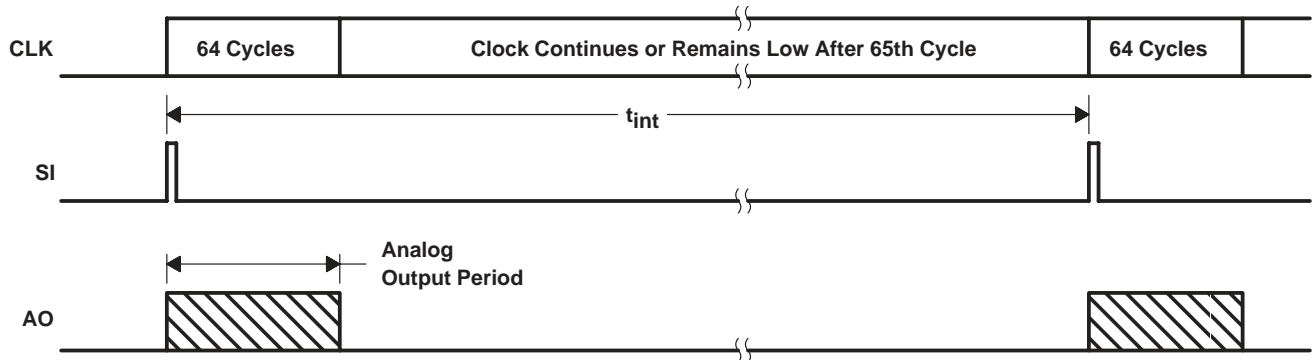

Figure 1. Timing Waveforms
Operation of the 64 × 1 array sensor consists of two time periods: an integration period during which charge is accumulated in the pixels and an output period during which signals are transferred to the output. The integration period is defined by the interval between serial-input (SI) pulses and includes the output period (see Figure 1). The required length of the integration period depends upon the amount of incident light and the desired output signal level.
The output period is initiated by the presence of the SI input pulse coincident with a rising edge of CLK (see Figures 1 and 2). The analog output voltage corresponds to the level of the first pixel after settling time (t_s) and remains constant for a minimum time, t_v . A voltage corresponding to each succeeding pixel is available at each rising edge of the clock. The output period ends on the rising edge of the 65th clock cycle, at which time the output assumes the high-impedance state. The 65th clock cycle terminates the output of the last pixel and clears the shift register in preparation for the next SI pulse. To achieve minimum integration time, the SI pulse may be present on the 66th rising edge of the clock to immediately reinitiate the output phase. When the output period has been initiated by an SI pulse, the clock must be allowed to complete 65 positive-going transitions in order to reset the internal logic to a known state.